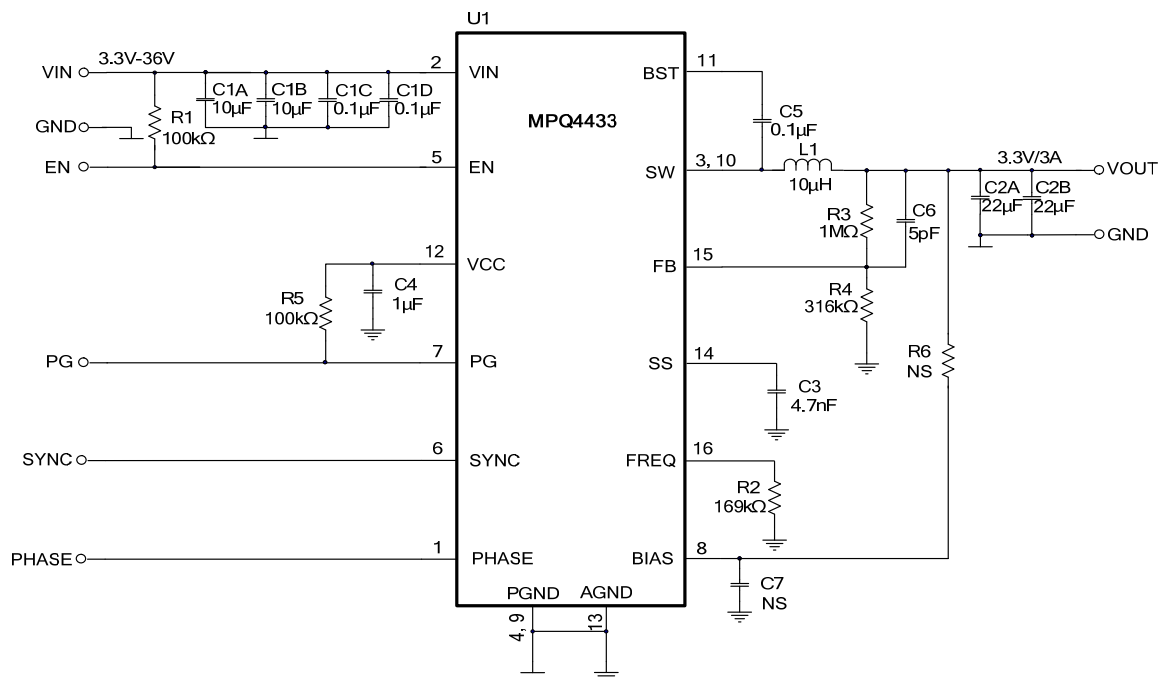

Figure 9: $V_{OUT} = 3.3V$, $F_{sw} = 500kHz$
8) The recommended PCB layout is based on Figure 9.